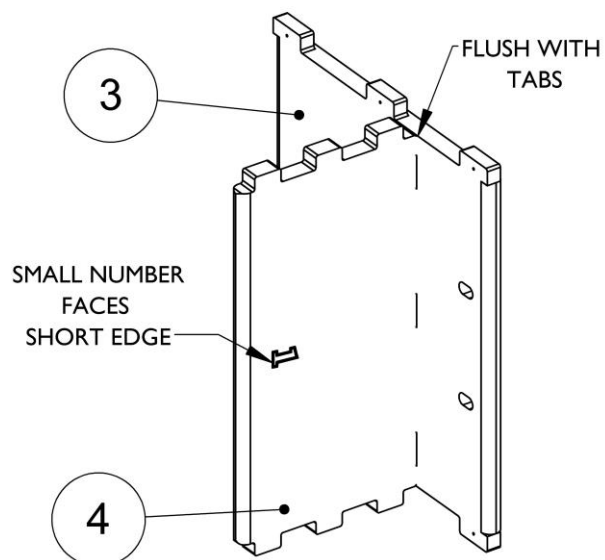

Figure 11
- 2.6) Insert the frame support into the frame top as shown, with the large number toward the back edge and the small number toward the short edge. Refer to Figure 11.